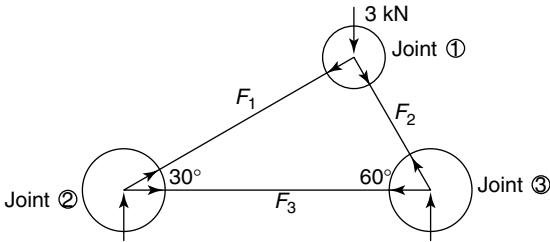
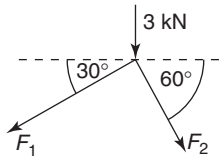

Figure 4.27
Figure 4.28
Firstly, assume all unknowns are in tension, as shown in Figure 4.27.
Next, make imaginary cuts around the joints, as shown by the circles in Figure 4.27. This action will give us three free body diagrams. The first we consider is around joint (1), because this joint has only two unknown forces; see Figure 4.28.